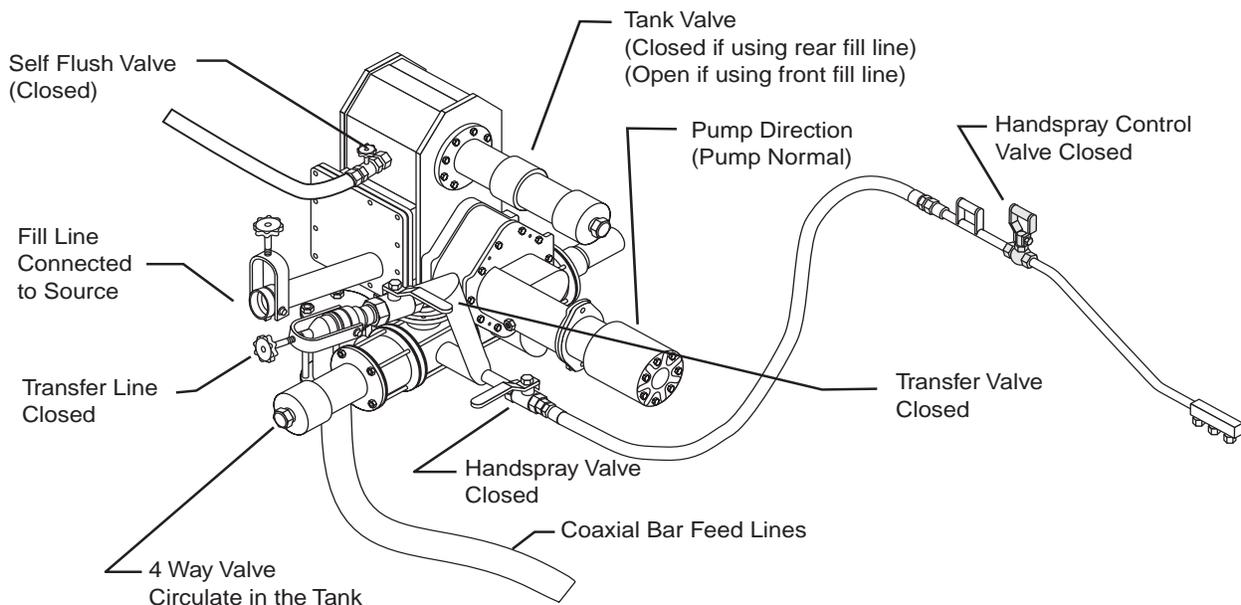

Figure 1. Valve Positions for Filling
4. Set all of the valve positions (see Figure 1).